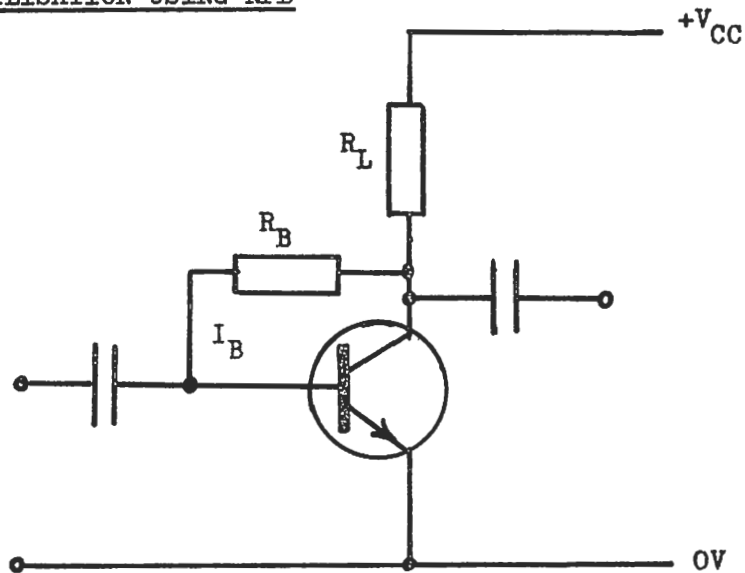

Figure 6: DC Stabilisation using NFB
6.1 If in the circuit of figure 6 the collector voltage rises above its optimum value then the potential at the top of the base resistor also rises, thus increasing the base current. This causes the collector current to rise and the collector potential to fall, reducing the original rise in potential. The feedback stabilises the d.c. conditions under which the transistor operates. In more detail